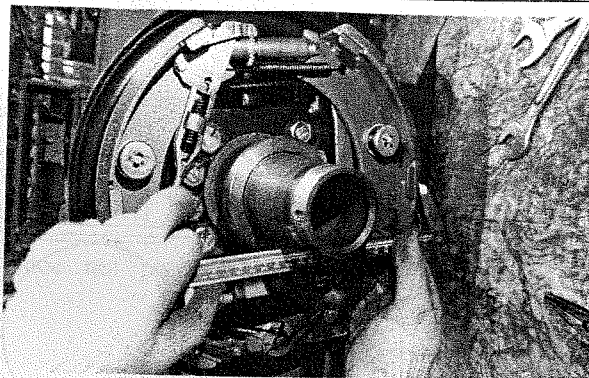

Fig 7-23
(9) Install adjuster, adjuster spring, top rod, and return spring for top rod (Fig 7-23).